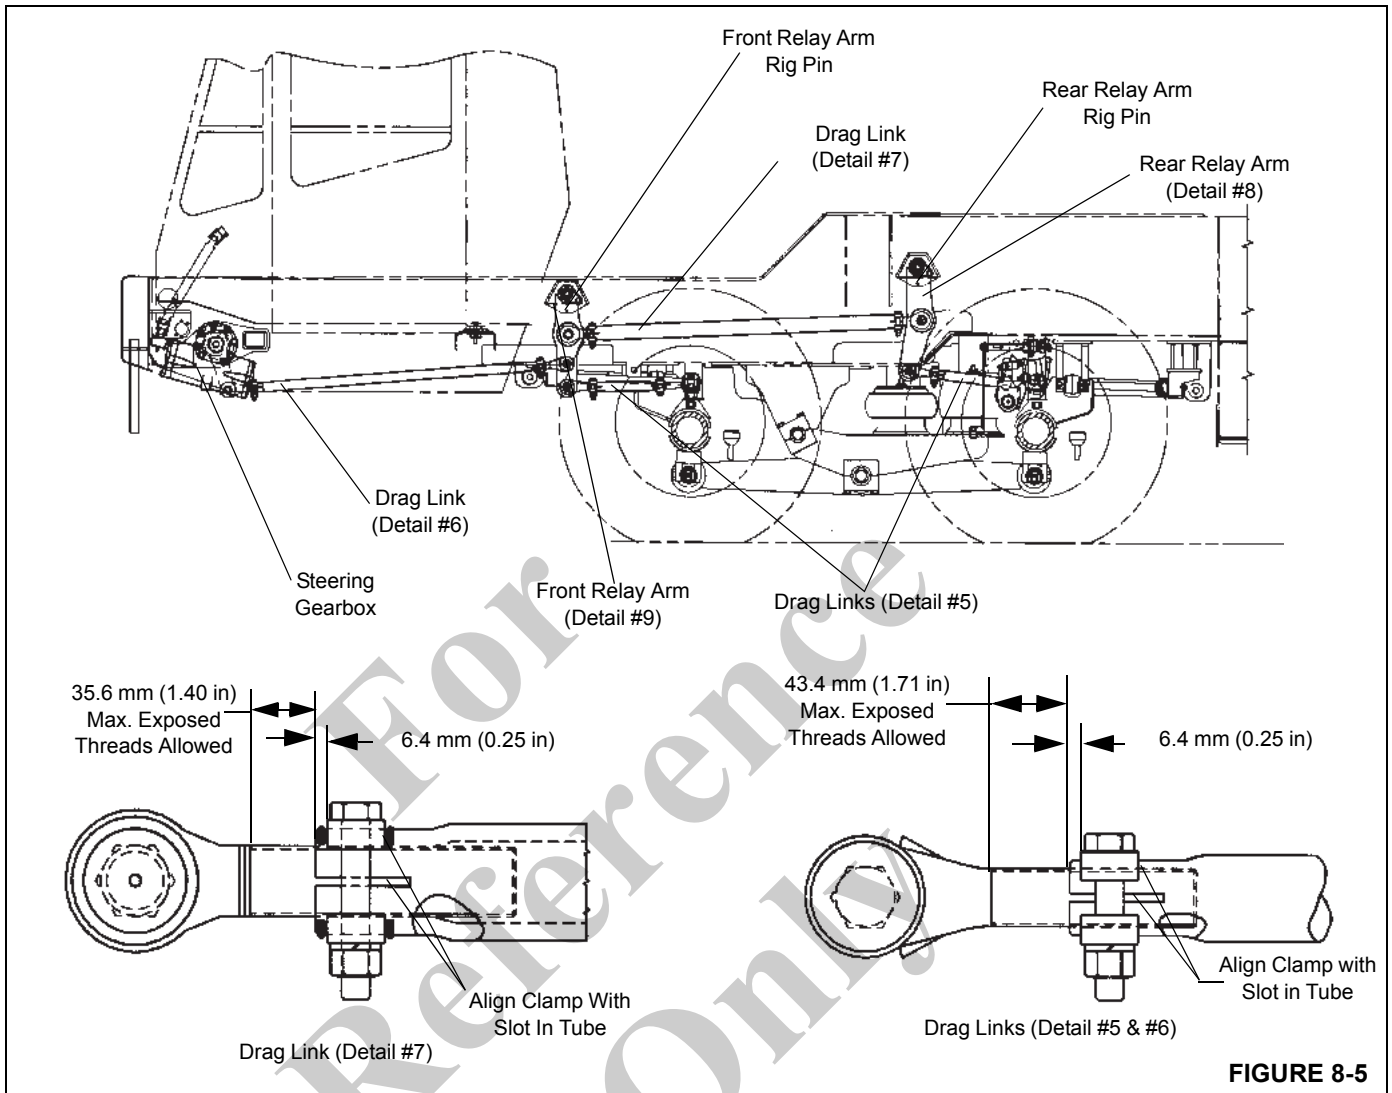

FIGURE 8-5
**NOTE:** All detail numbers are in reference to Figure 8-5.
7. Check that the rod ends on all drag links are within the limits shown in Figure 8-5.
9. Referring to Figure 8-5, adjust the drag links (Detail 5) as required so that the distance from the string line to the front of each wheel is the same as the distance from the string line to the rear of the same wheel within 1.5 mm (0.06 in). Check that the rod ends of the drag links are within limits specified in Figure 8-5.